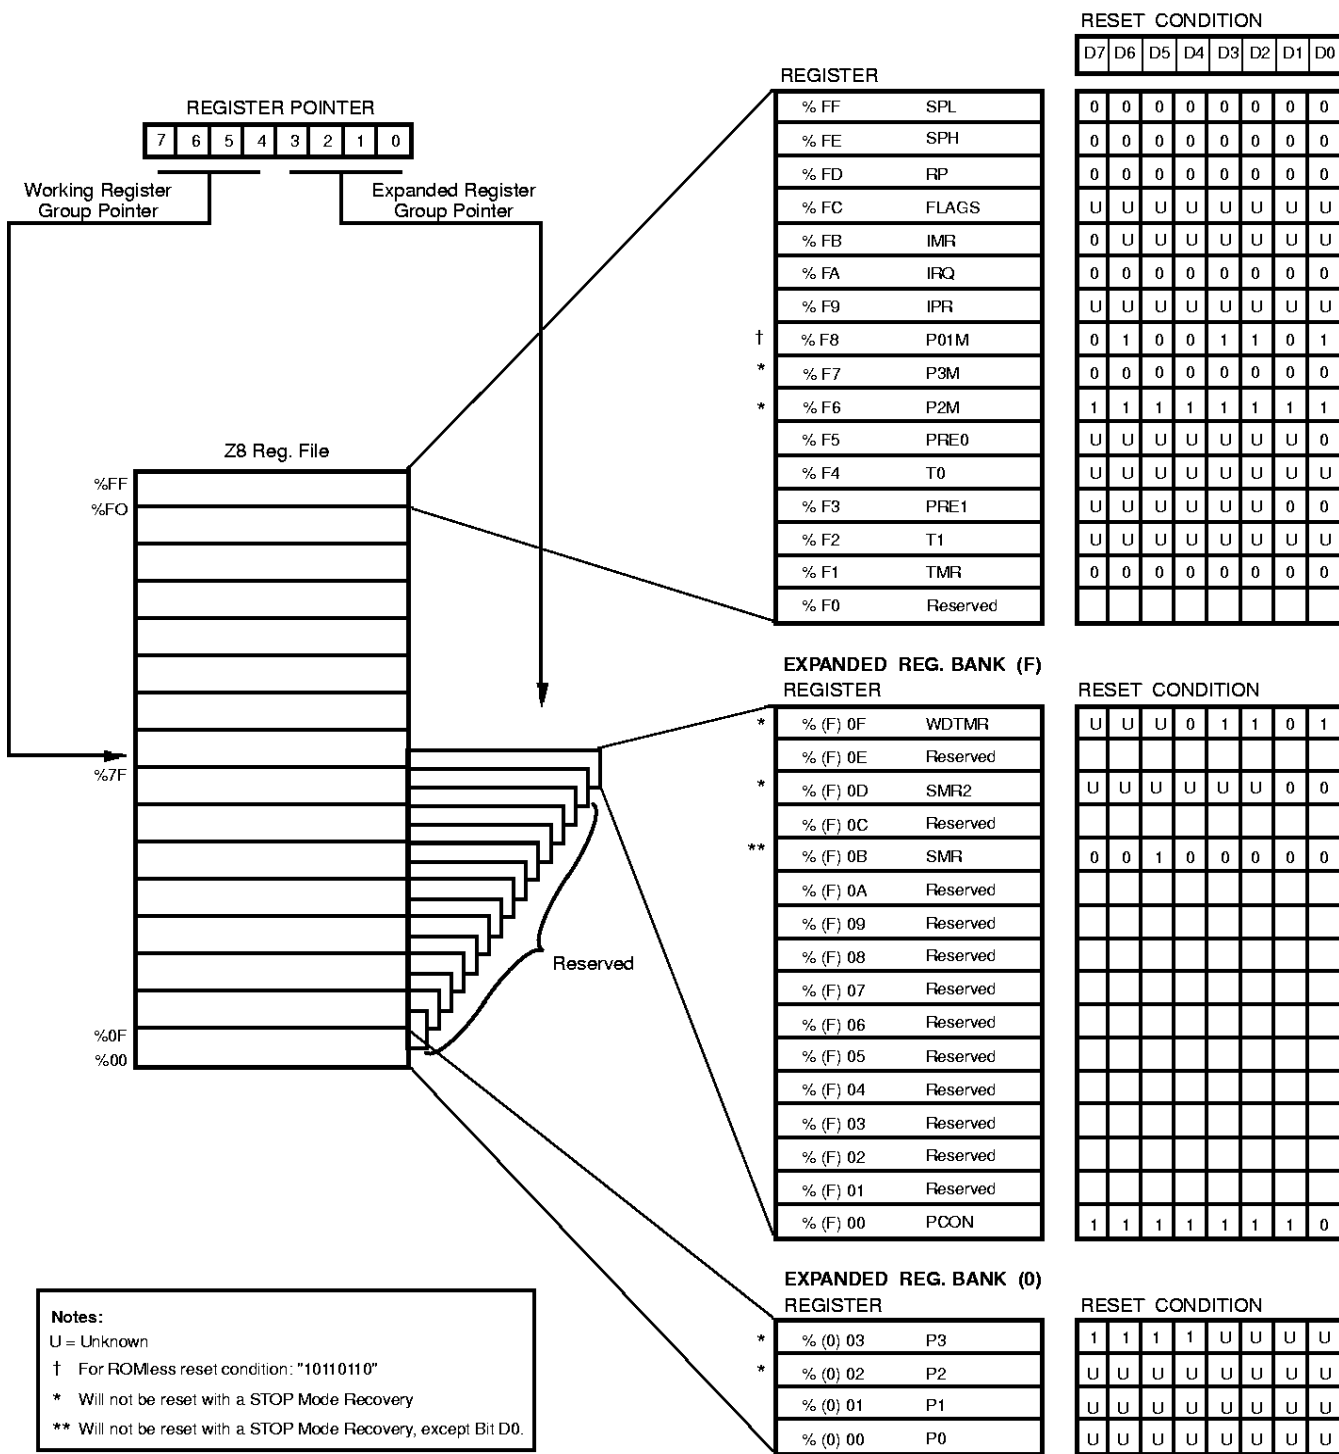

Figure 26. Expanded Register File Architecture
**Expanded Register File (ERF).** The register file has been expanded to allow for additional system control registers, mapping of additional peripheral devices and input/output ports into the register address area. The Z8 register address space R0 through R15 is implemented as 16 groups of 16 registers per group (Figure 26). These register banks are known as the Expanded Register File (ERF).